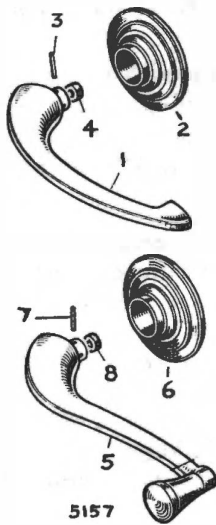

Fig. 9. Interior door handles (Rapier)
**INTERIOR HANDLES—To remove and refit Rapier (Fig. 9)**